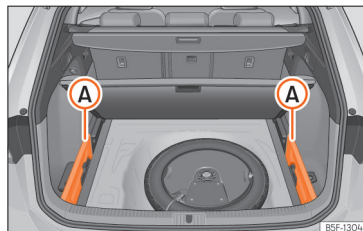

Fig. 180 In the boot: space to store the retractable shelf.
- Remove the left and right covers >>> **Fig. 180** ①.